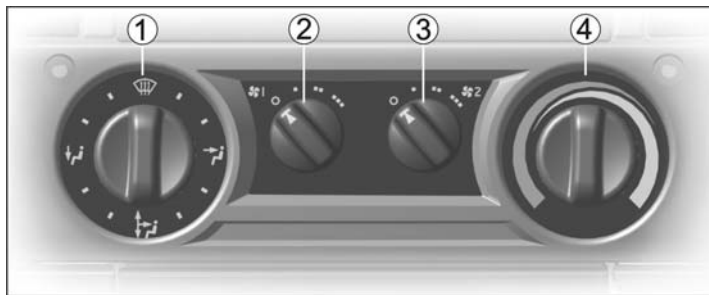

Fig. 8.2. Heating and ventilation control panel
- turn handle 4 (see Fig. 8.2) of main Operating Instructions) of air temperature control in the cab clockwise to the angle of not less than 10°;
- turn handle 1 (Fig. 8.2) of air distribution control to position ;
- turn handle 4 (fig. 8.2) to the extreme left position (wide part of the blue symbol);